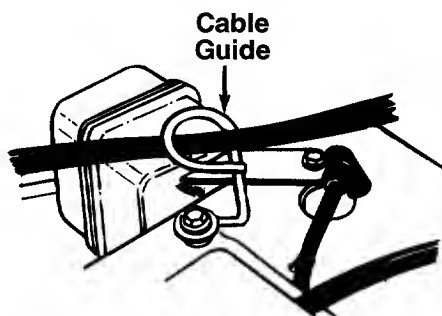

FIGURE 7.
- Slip the cables that run from the handle panel to the chute into the cable guide located on top of the engine. See figure 7.